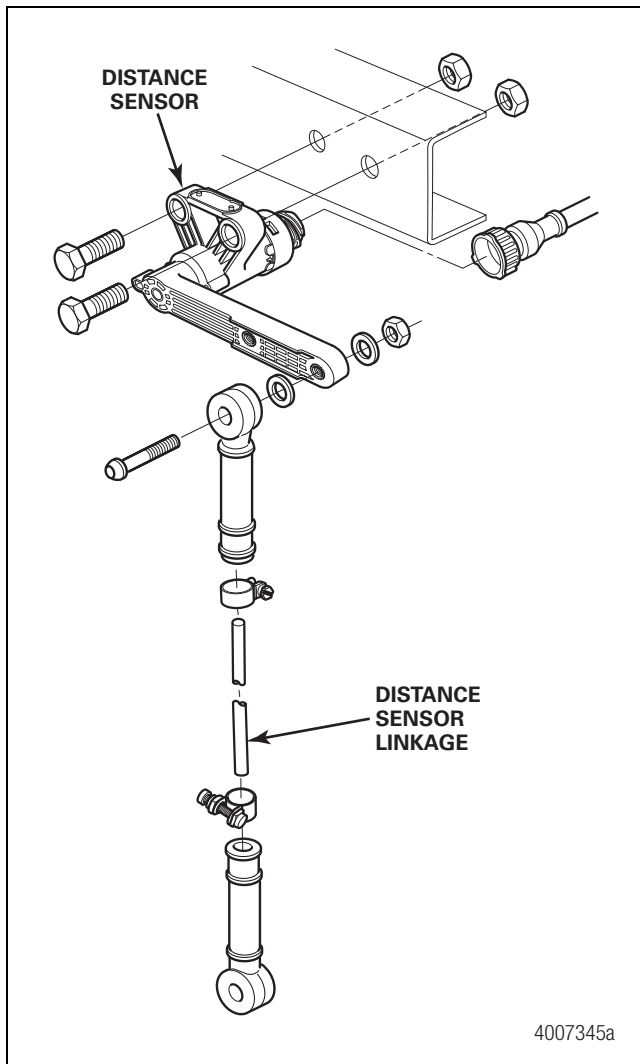

Figure 6.8
1. Disconnect the cable attached to the Distance Sensor. Figure 6.8.
1. Install the Distance Sensor to the cross member or bracket near the center of the trailer with the two bolts previously used to mount the replaced sensor. Figure 6.8.